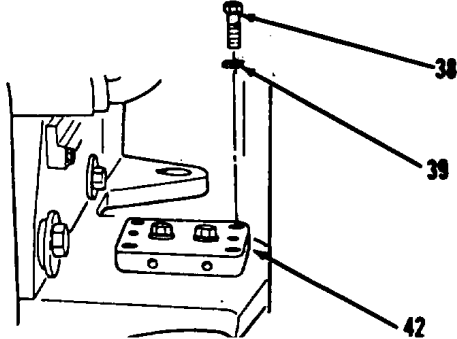

Figure 16-9.
- 19. Remove four bolts (38) and lockwashers (39) from four corners of plate (42, Figure 16-9).